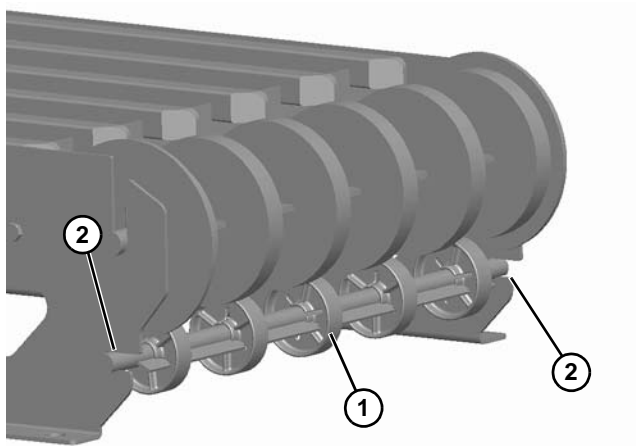

**Figure 79**
1. Remove the bearing cover (**Figure 79, item 1**).
2. Use a hex wrench to loosen the bearing shaft assembly fasteners (**Figure 79, item 2**).
3. Remove three screws (**Figure 79, item 3**) attaching the bearing flange assembly to the mounting plate (**Figure 79, item 4**).
4. Slide the bearing flange assembly (**Figure 79, item 5**) off the pulley shaft end (**Figure 79, item 6**).